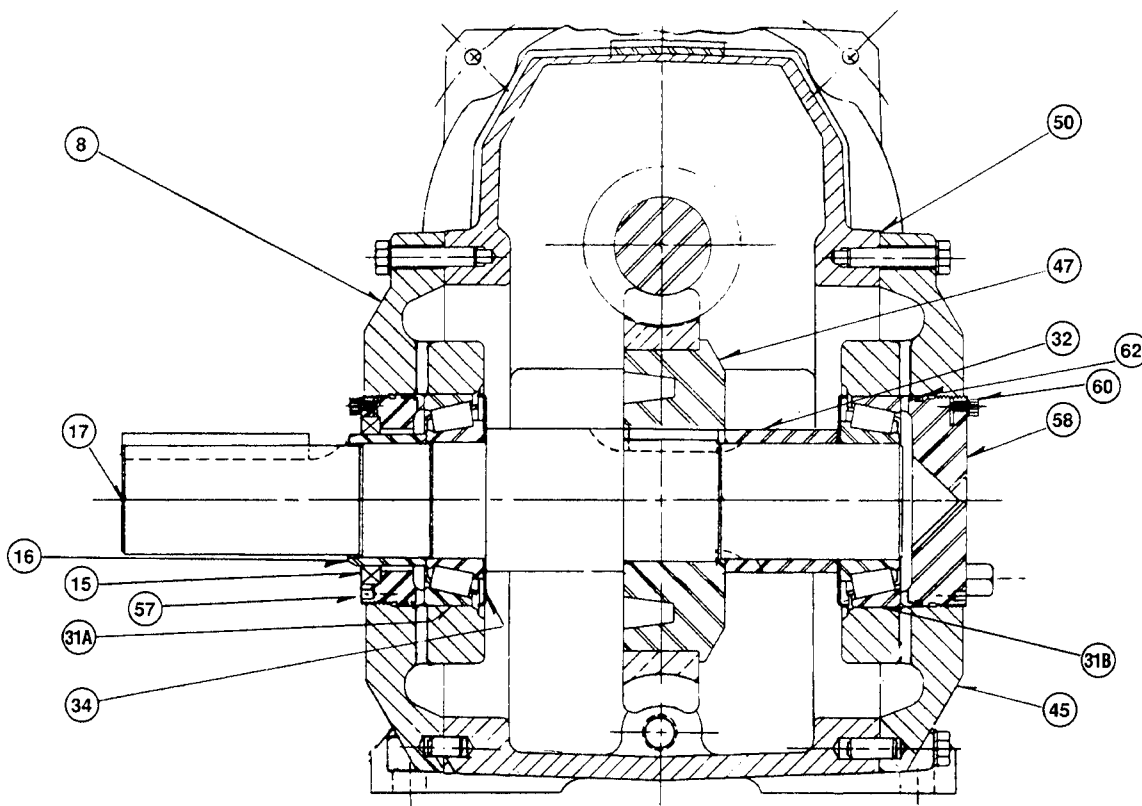

Figure 2
NOTE: To adjust the output shaft bearings turn the bearing caps clockwise to zero clearance and mark the cap and gearcase; then back off one of the caps in a counterclockwise rotation $\frac{1}{4}$ " (.001" to .003" end play) and retighten the bearing cap lock screw (60) (Fig. 2) to 75 inch lbs.
6. An alternate method to *visually* check gear centering is to "blue" the gear and check tooth contact in both directions. Apply Prussian Blue lightly but evenly to six teeth of the bronze gear (47). Install the output shaft assembly into the gearcase so that the gears do not mesh on the teeth coated with Prussian Blue. Install the bearing housing (45) and gasket and then secure with several screws.